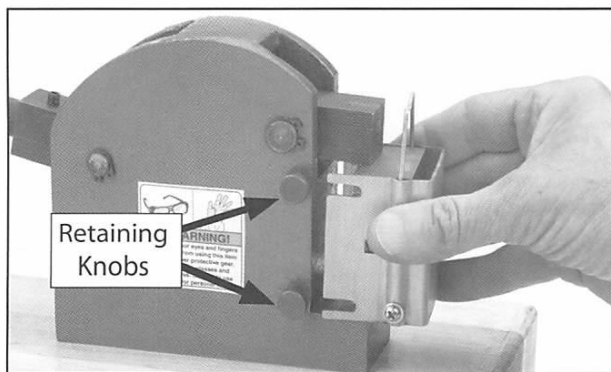

Figure 2. Removing die.
- Raise the handle, loosen the four retaining knobs, un-clip the die retainer from the pressure anvil, and slide the die assembly from the casting (**Figure 2**).